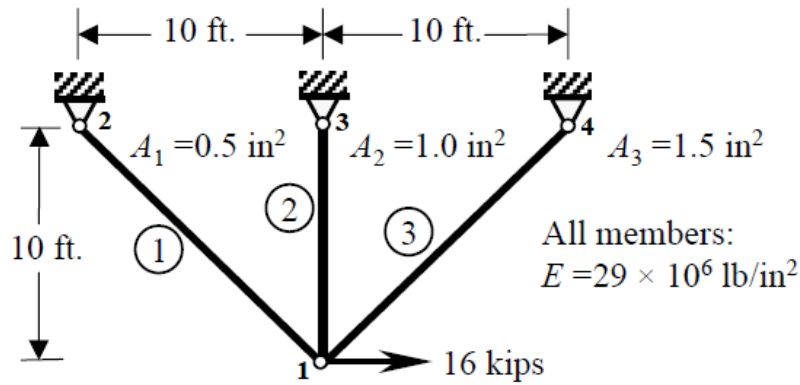

Figure 3
- 2A)** For the plane trusses shown in Figure 3, determine the horizontal and vertical (05)